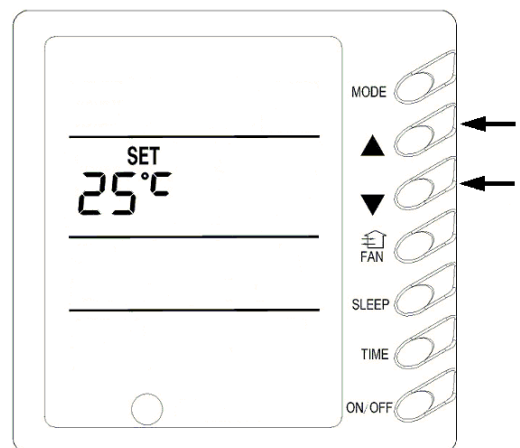

Fig.4
3) Setting Temperature (Fig.4)